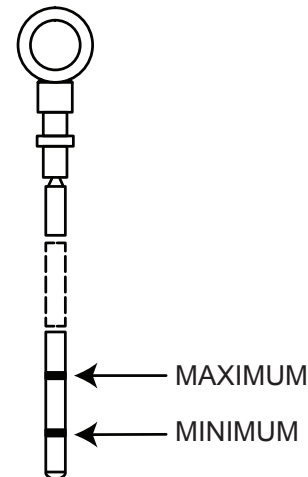

FIGURE 25 - PROPER OIL LEVEL
- Remove the dipstick and wipe with a lint free cloth. See FIGURE 25.
- Make sure that the oil level is between the marks on the dip stick. See FIGURE 25. If the oil level is just above the ADD mark then add more oil.
- Fill the oil sump up to the MAX level as indicated on the dipstick. See TABLE 11 for oil capacity for the specific diesel engine. See FIGURE 25.